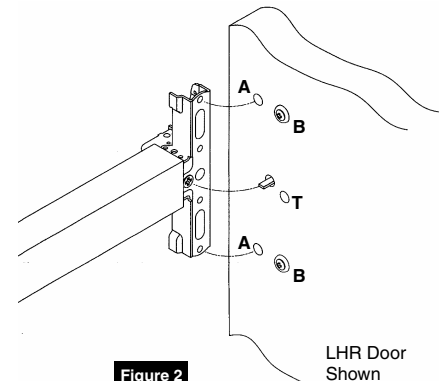

Figure 2
NOTE: Cylinders longer than 1-1/8" (29) will require collars. (Figure 2)